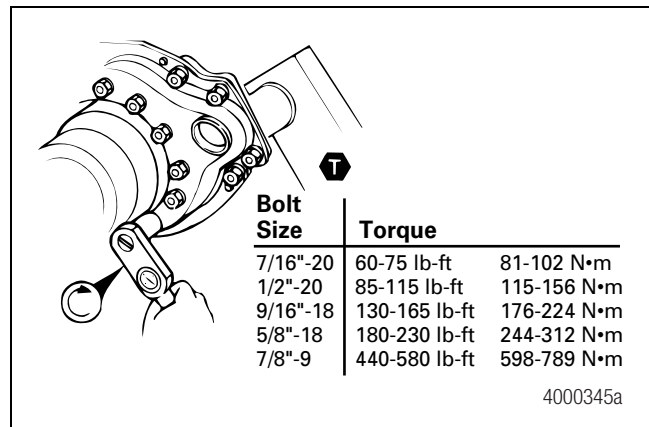

Figure 5.17
1. If removed, install the spider onto the axle housing flange. Align the marks you made on the spider and flange during removal. Install the spider-to-flange capscrews. Tighten the capscrews to the torque specified in Figure 5.17. **⚠**
2. If removed, install the seal and bracket onto the spider. Install the bracket fastener. Tighten the fastener to the torque specified in Figure 5.17. **⚠**
3. If the spider was not removed, check the torque of the spider-to-flange capscrews. Tighten the spider capscrews to the torque specified in Figure 5.17. **⚠**